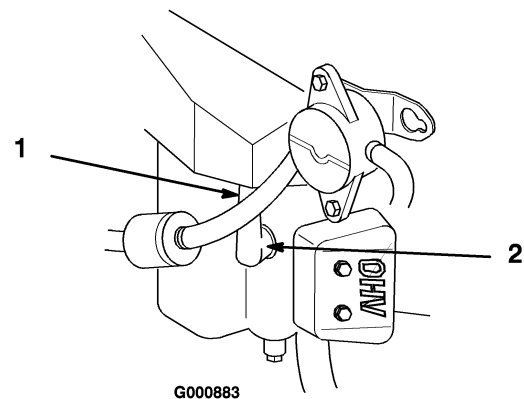

Figure 29
3. Pull the wire(s) off of the spark plug(s) (Figure 29). Clean around the spark plug(s) to prevent dirt from falling into the engine and potentially causing damage.
3. Push the wire(s) onto the spark plug(s) (Figure 29).